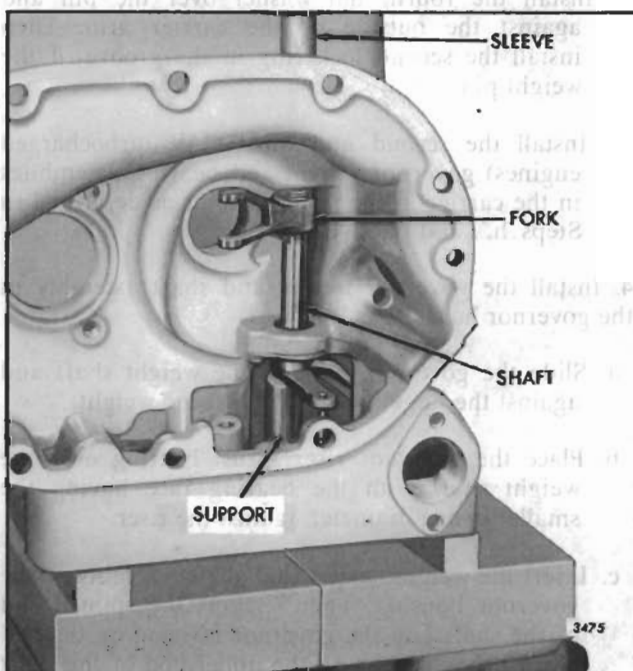

Fig. 18 - Installing Governor Operating Shaft Fork on Shaft
- f. Support the governor housing and operating shaft assembly on the bed of an arbor press with the upper end of the operating shaft resting on a steel support as shown in Fig. 18. Place a 7/16" inside diameter sleeve over the end of the shaft and against the fork. Then press the fork tight against the shaft spacer on the shaft.
- h. Support the governor housing and operating shaft assembly on the bed of an arbor press with the upper end of the operating shaft resting on a steel support as shown in Fig. 18. Place a 7/16" inside diameter sleeve on the inner race of the bearing and under the ram of the press. Then press the bearing on the shaft until it seats on the shoulder in the housing.